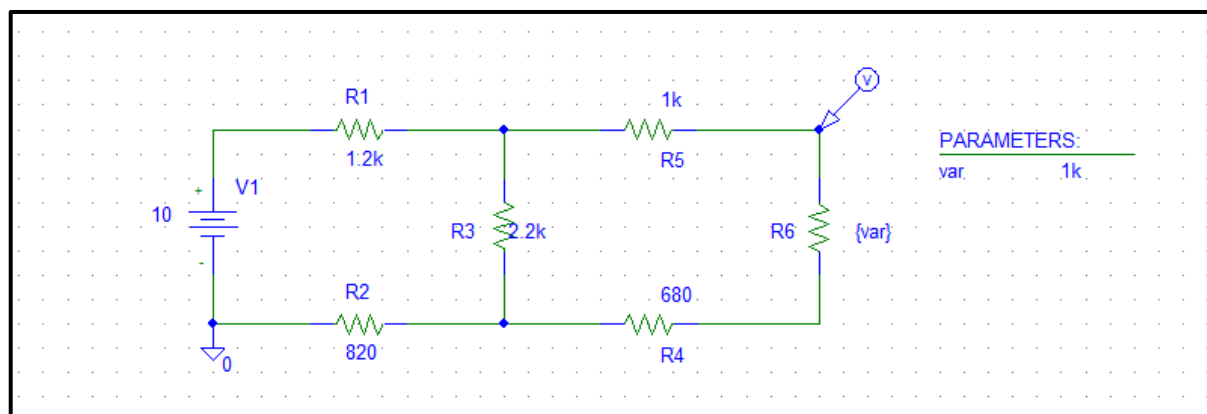

Figure.31
- Type the name of the global parameter inside curly brackets { }, as shown in figure 31.